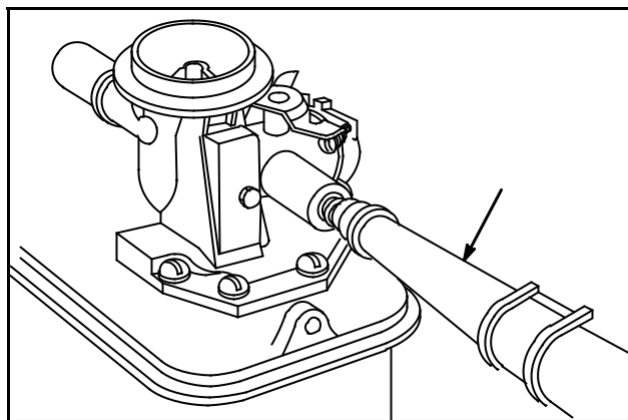

Fig. 248 - ASSEMBLING PRESSED-IN VALVE
- Oil fill tube, Part #280131 will help firmly seat valve assembly, Fig. 248.